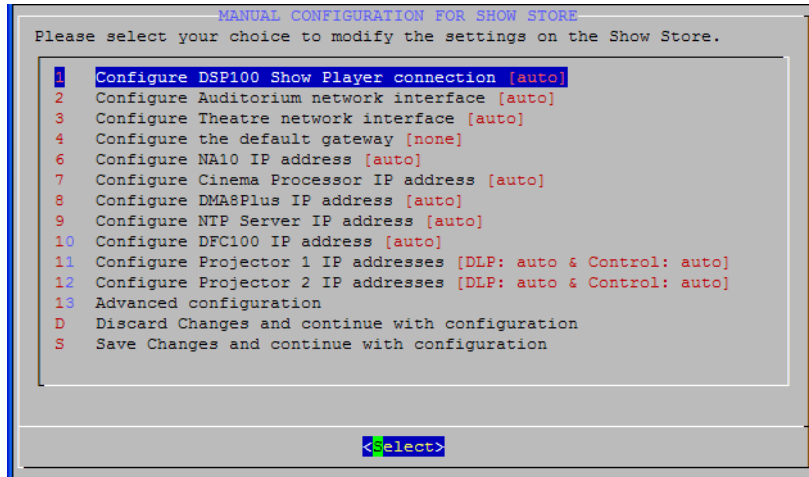

Figure 3-34 Manual Configuration for DSS200 Screen
- Manually set the NTP server address of each DSS200 (refer to Figure 3-34) using the IP address of an external NTP server (recommended for best accuracy).
- Manually set the NTP server address of this DSS200 using the IP address of an external NTP server, and enter the theatre network address on this DSS200 (refer to Table 3-1) as the NTP server address on the other units (refer to Figure 3-34).
- Manually set the NTP server address on the other DSS200s (refer to Figure 3-34) using the theatre network address on this DSS200 (refer to Table 3-1).
- If you want to override the automatic settings, press <Tab> to select **Yes**, then press <Enter> to display the **Manual Configuration for Show Store (DSS200)** screen (as shown in Figure 3-34), and proceed to step 14. In this screen, you can select the network settings you want to override, and then enter the desired custom settings.